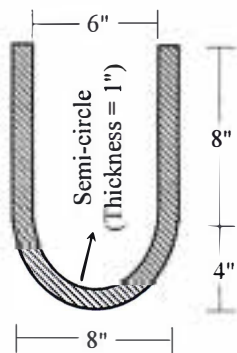

Fig.7
7. Calculate the Yield Moment (M_y) and Plastic Moment (M_p) capacity of the section shown in **Fig.7** if the section is made of elastic-fully plastic material [Given: $\sigma_y = \sigma_{yp} = 60$ ksi].